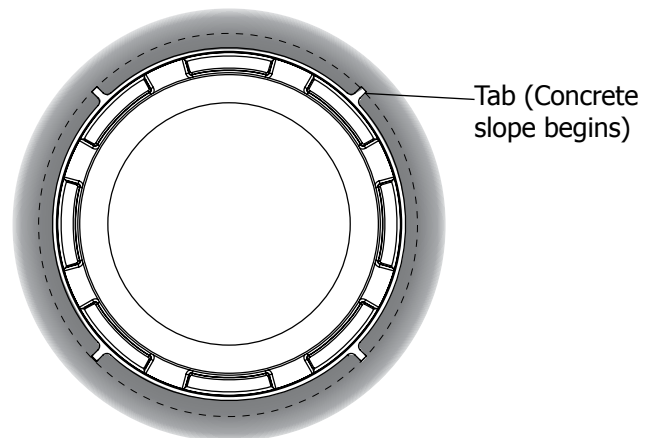

Figure 18: Concrete Placement
10. Pour concrete around the Defender Series™ spill container, making sure to dome the concrete at least 1" (2.54 cm) to allow for adequate runoff. The sloping of the concrete should begin at the outer edge of the concrete ring tabs (Figure 18). Keep the snow plow ring and cover clean and free of any concrete splatter (the snow plow ring must be able to be removed if service is needed).